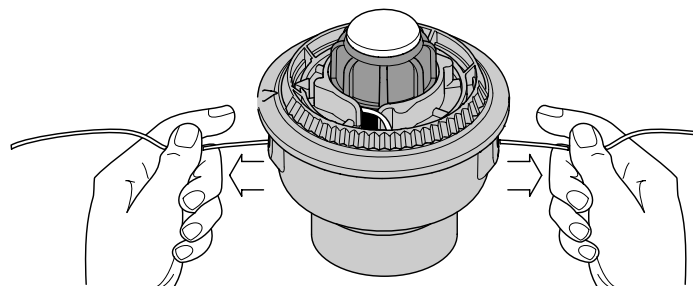

Figure 20
9. If winding the line becomes difficult or if the line jams, pull the ends of the line from the spool. See Figure 20. Continue winding the inner reel counterclockwise.
4. Hold the inner reel in place and install the bump knob, spring and foam seal. Press down and turn the bump knob clockwise. Grasp the ends and pull firmly to release the line from the holding slots in the inner reel. See Figure 20.
If the SpeedSpool® does not release line correctly, pull the ends of the line firmly from the spool. See Figure 20. If this does not release the line, follow the *Cleaning the SpeedSpool®* instructions.